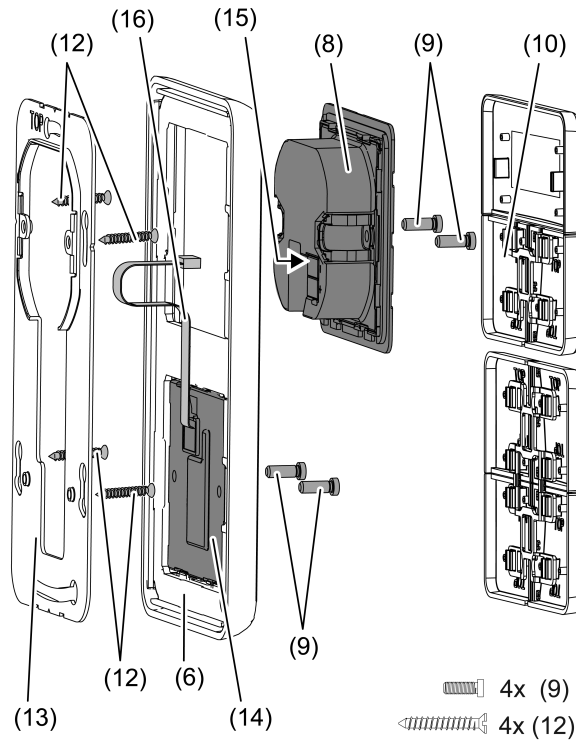

Figure 3: Mounting with push-button extension module
When the push-button extension module is used (Figure 3): Preferably mounted vertically. Use large supporting frame (13). When mounting on only one appliance box, countersink the lower screws into the wall, e.g. with a  $\varnothing 6 \times 10$  mm hole. Use supporting frame as template.
- Mount supporting frame (5) or (13) in the correct position onto an appliance box. Note marking **TOP=**; marking **A** or **B** in front. Use only the enclosed box screws (12).
- Push frame (6) onto supporting frame.
- Mount push-button extension module (14) preferably below. Route connecting cable (16) between supporting frame and intermediate web.
- Push-button extension module: Insert connecting cable (16) in the correct orientation into slot (15) in the controller module. Do not crimp the connecting cable (Figure 3).
- Connect controller module (8) to the KNX using KNX device connection terminal (11) and push onto the supporting frame.
- Fasten controller module (8) and push-button extension module (12) to supporting frame using the enclosed plastic screws (9). Tighten the plastic screws only lightly.
- Before mounting the control surfaces (10), load the physical address into the device (see chapter 5.2. commissioning).